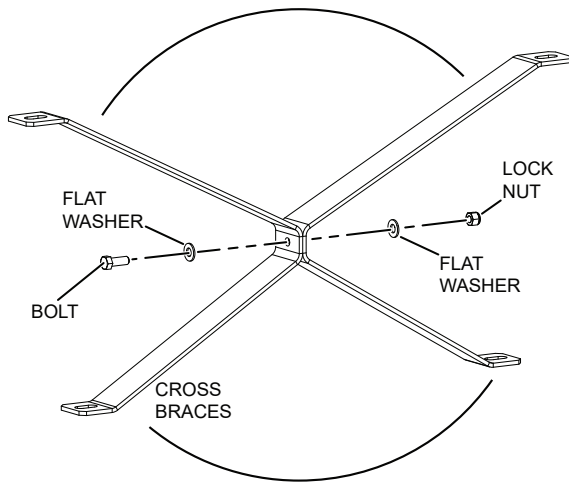

Figure 2. X-Brace
1. Secure cross braces (2) together using a bolt, flat washer (2), and lock nut to form X-Brace. See Figure 2.